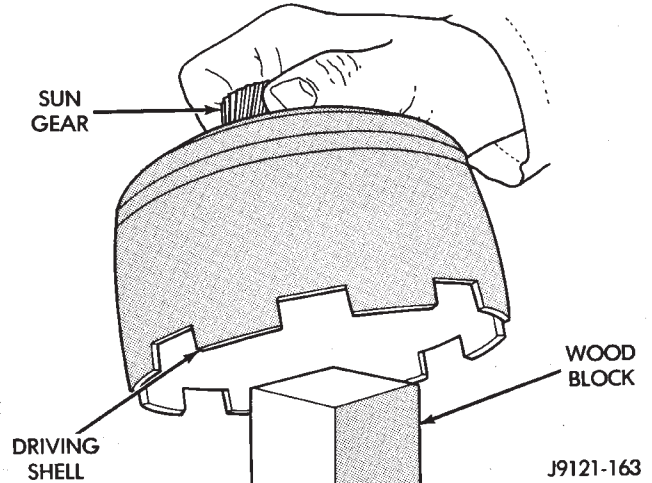

Fig. 158 Supporting Sun Gear On Wood Block
(10) Position wood block on bench and support sun gear on block (Fig. 158). This makes it easier to align and install sun gear lock ring. Keep wood block